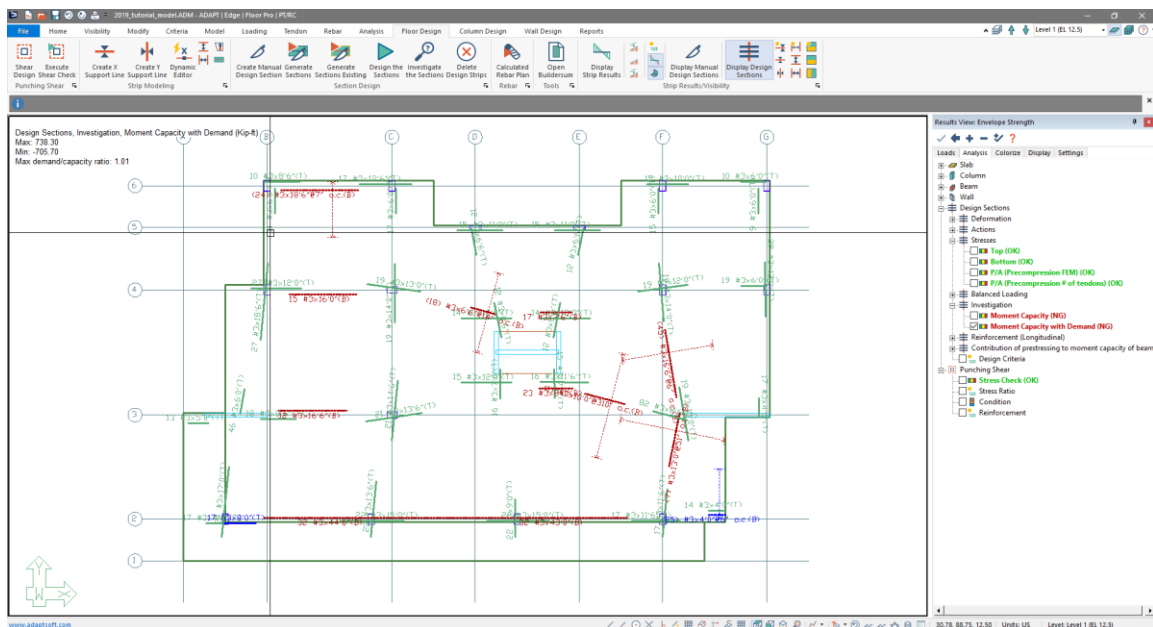

Figure 9-115
- Click **OK** button as we will generate the *Envelope* rebar needed to satisfy all design criteria with the default options of the program. When done the users screen should be similar to that shown in **FIGURE 9-115**.